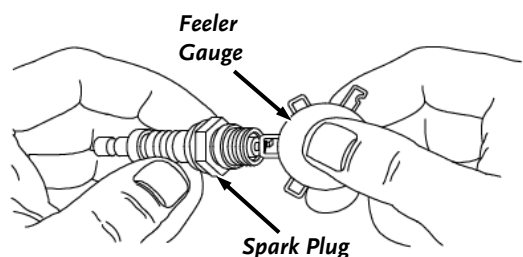
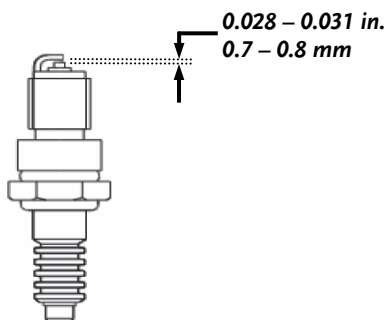

Figure 27
Figure 28
6. Measure the Spark Plug Clearance (gap) with a Feeler Gauge (**Figure 27**). The clearance should be 0.028–0.031 in (0.7–0.8 mm) (**Figure 28**).